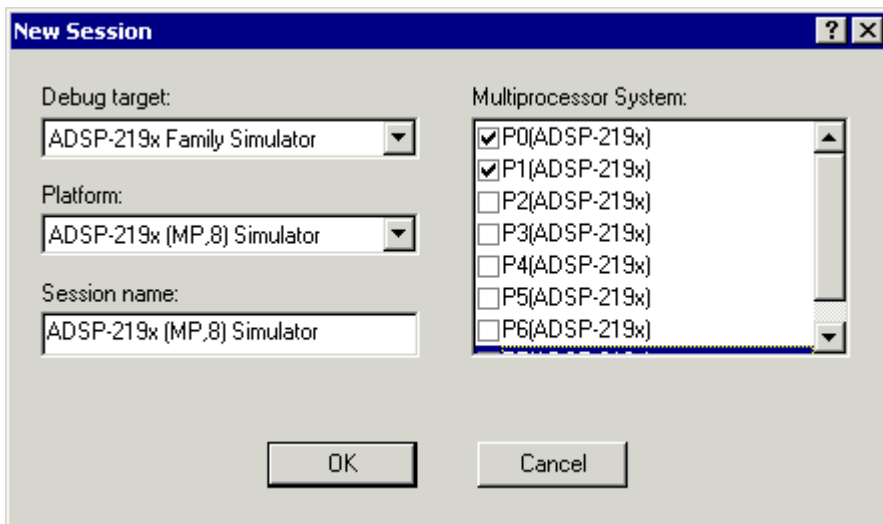

Figure 2-38. New Session Dialog Box
2. From the Session menu, choose **New Session** to open the New Session dialog box, shown in Figure 2-38.
3. Under **Multiprocessor System**, select the check boxes next to processors **P0** and **P1**, as shown in Figure 2-38 on page 2-51.